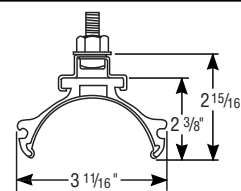
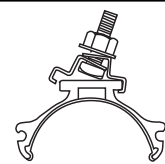

Figure 2
Figure 3
1. **Clamps** — Heaters are mounted by means of the mounting clamp and $\frac{3}{8}$ " bolt assembly which is used as shown in Figure 2. Clamp assembly may be attached to heater by sliding over end or by snapping over top of extruded frame section at any point along its length (see Figure 3). For proper heater support, the maximum distance between clamps must not exceed 48". On extra-long heaters, more than two clamps are furnished.